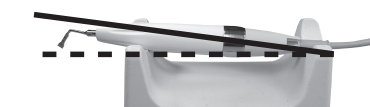

Fig.18
- Make sure that the Tip does not contact the Handpiece stand (Fig. 18).